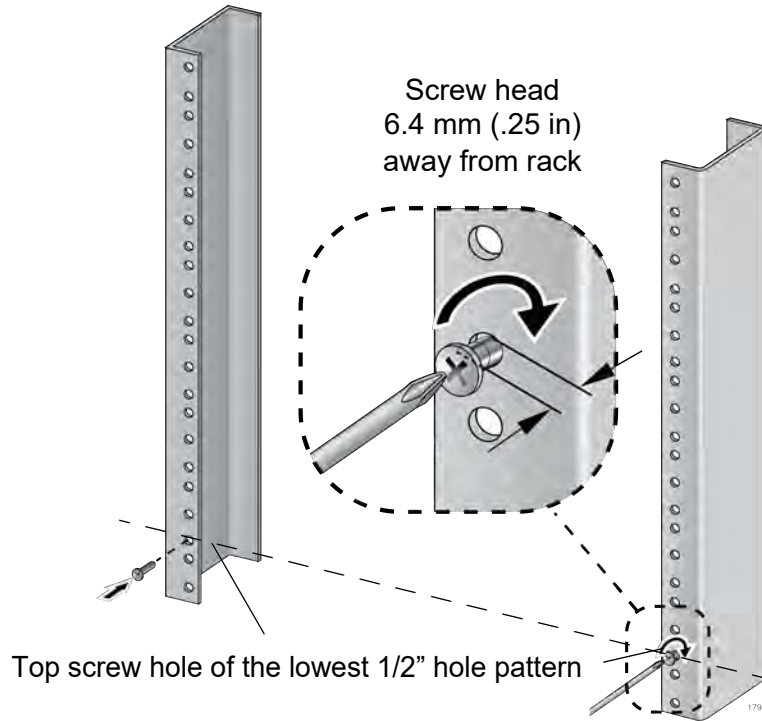

Figure 39. Rack Mounting Hole Locations
4. Install one rack mount screw in each vertical rail, at the same height in the top screw hole of the lowest 1/2" hole pattern, as shown in Figure 39. The screws are used to support the chassis while you secure it to the rack. Do not fully tighten these two screws at this time. The screw heads should protrude from the rack approximately 6.4 mm (.25 in).